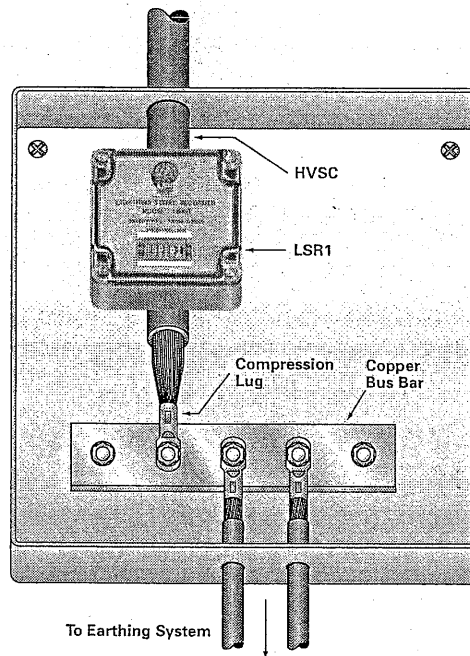

Figure 20.
6. If terminating the lower end of the HVSC to a bus bar, bunch together both inner and outer screen conductors, crimp them together in the 95m² crimp lug provided using a compression or mechanical crimping tool and connect the bus bar as per Figure 20.